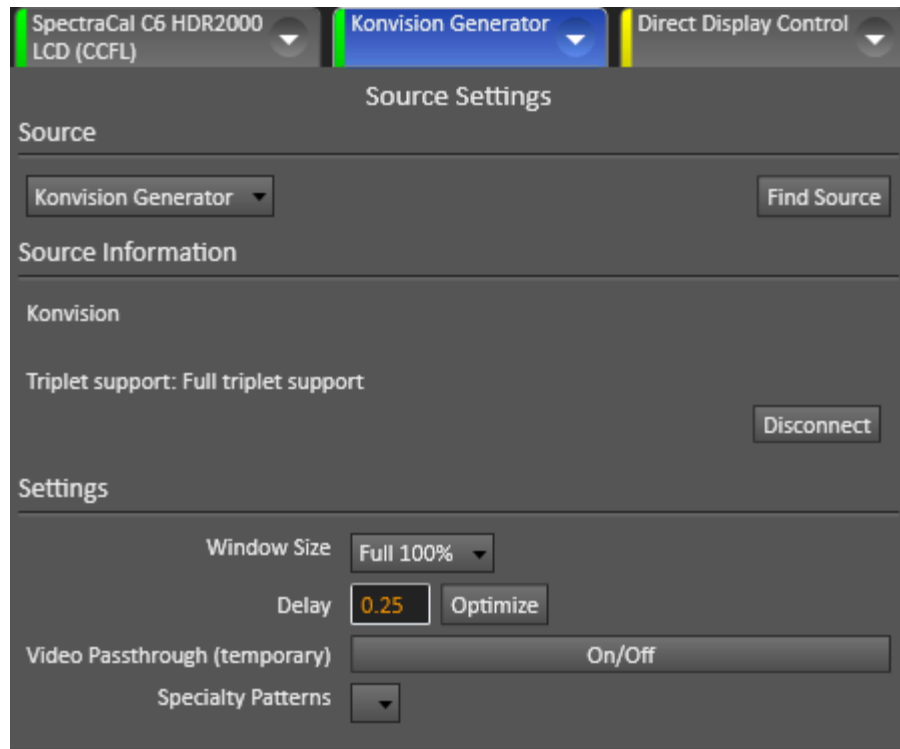

Figure 3. CalMAN Source Settings tab, with Konvision internal test pattern generator connected.
1. On the CalMAN Source Settings tab (Figure 3), click the *Video Passthrough On/Off* button to temporarily disable the Konvision internal test pattern generator, to allow access to the monitor's on-screen display menu.
1. On the CalMAN *Source Settings* tab (Figure 3), click the *Video Passthrough On/Off* button to temporarily disable the Konvision internal test pattern generator, to allow access to the monitor's on-screen display menu.